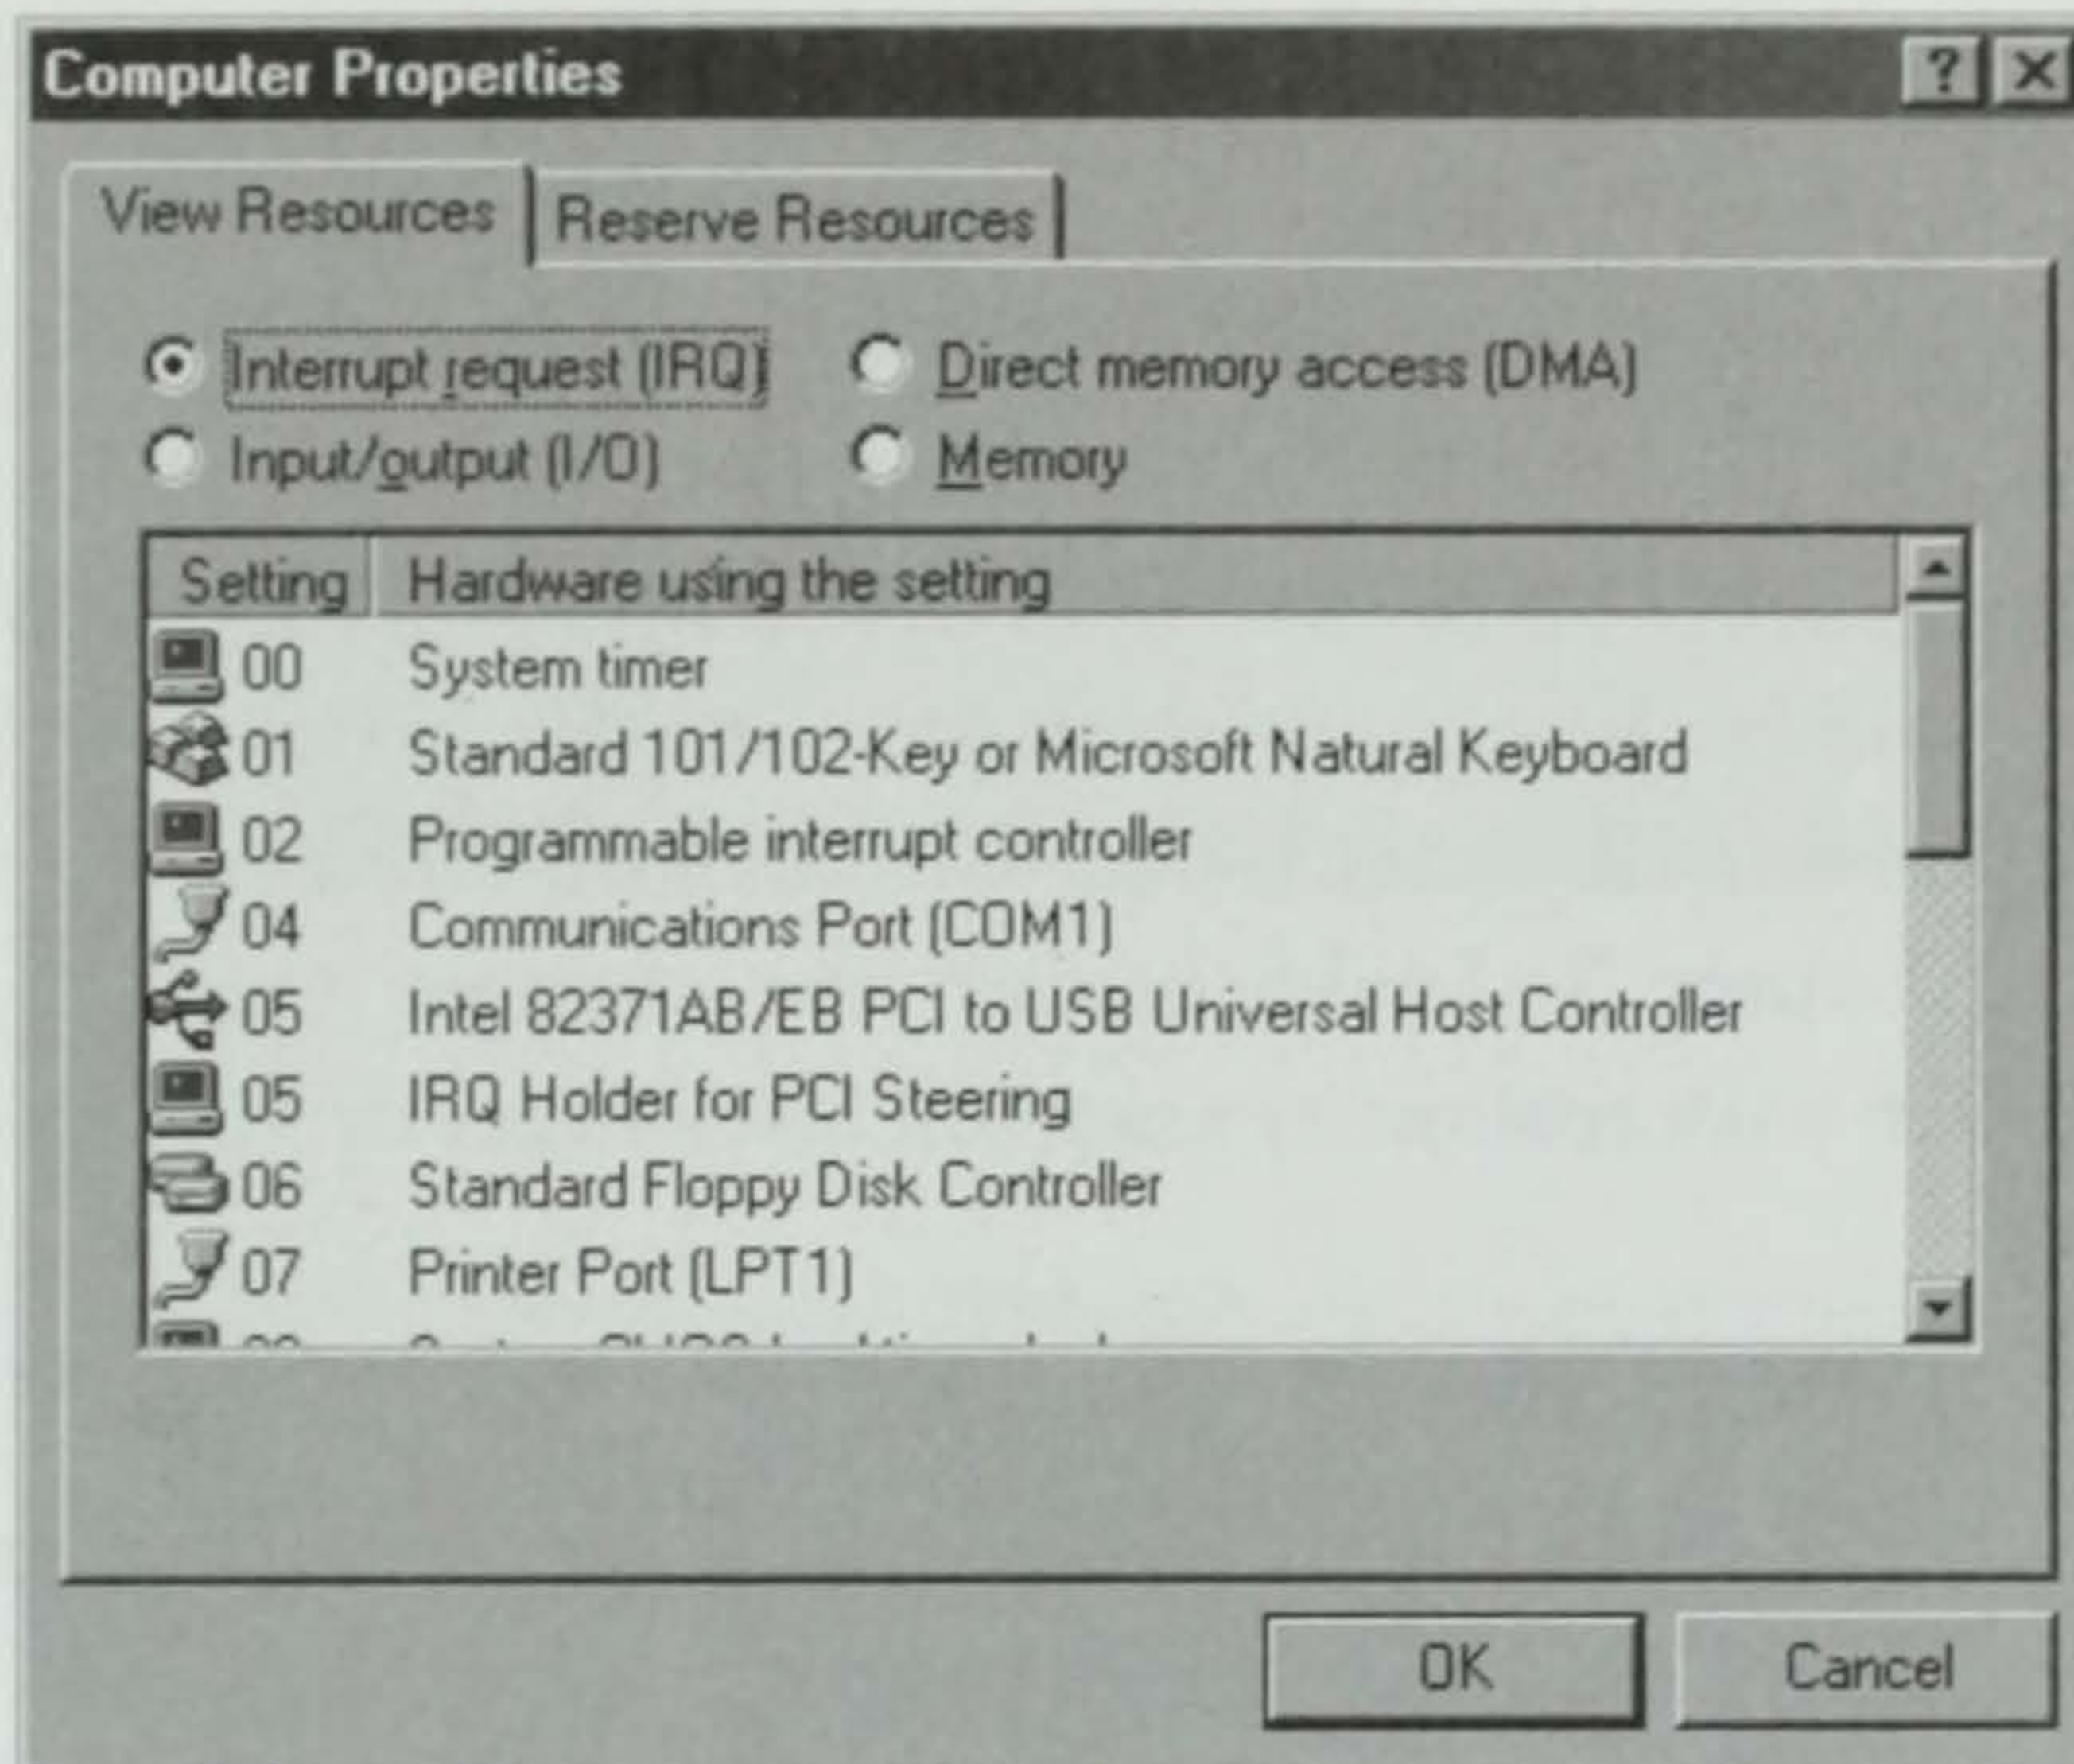

Figure 5.1 Device Manager/Properties page.
3. Click on the Device Manager tab to open the Device Manager properties page, as illustrated in Figure 5.1.